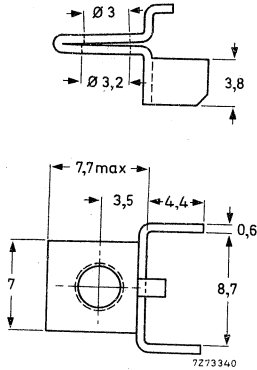
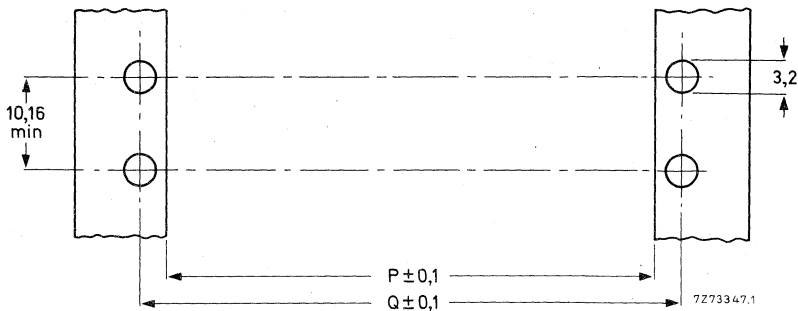

Fig. 3 Metal mounting bracket 4332 026 00750.
Fig. 7 Piercing diagram for rail mounting; see Table 2 for dimensions P and Q.
- metal bracket for rail or panel mounting, catalogue number 4332 026 00750 (Figs 3 and 4);
In Figs 7 and 8, piercing diagrams are given for connectors with mounting brackets as shown in Figs 3 and 5.